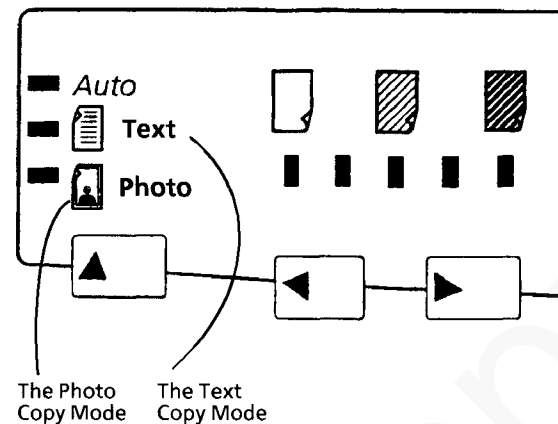

Figure 1. The Copy Modes
4. Select the **Photo** copy mode (Figure 1).
7. Select the **Auto** copy mode (Figure 1).